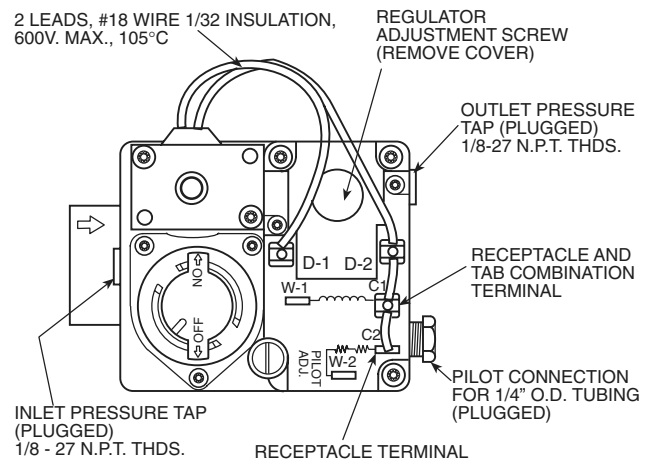

Fig. 38 — Gas Valve
6. Remove screw cap covering regulator adjustment screw (see Fig. 38).